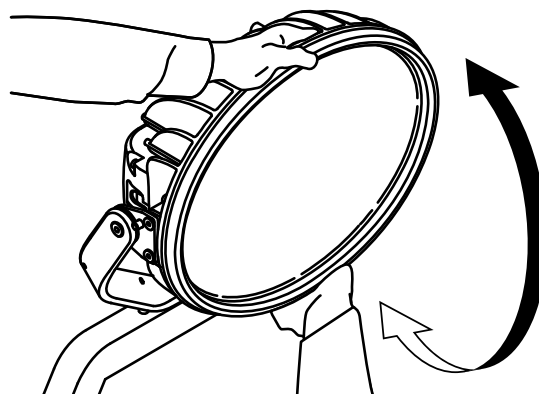

Figure 13. Tilting a Lamp
2. To tilt the lamp to a desired angle, hold the top and bottom of the individual lamp and tilt (Figure 13). If you want the lamp to face down, tilt it slightly.